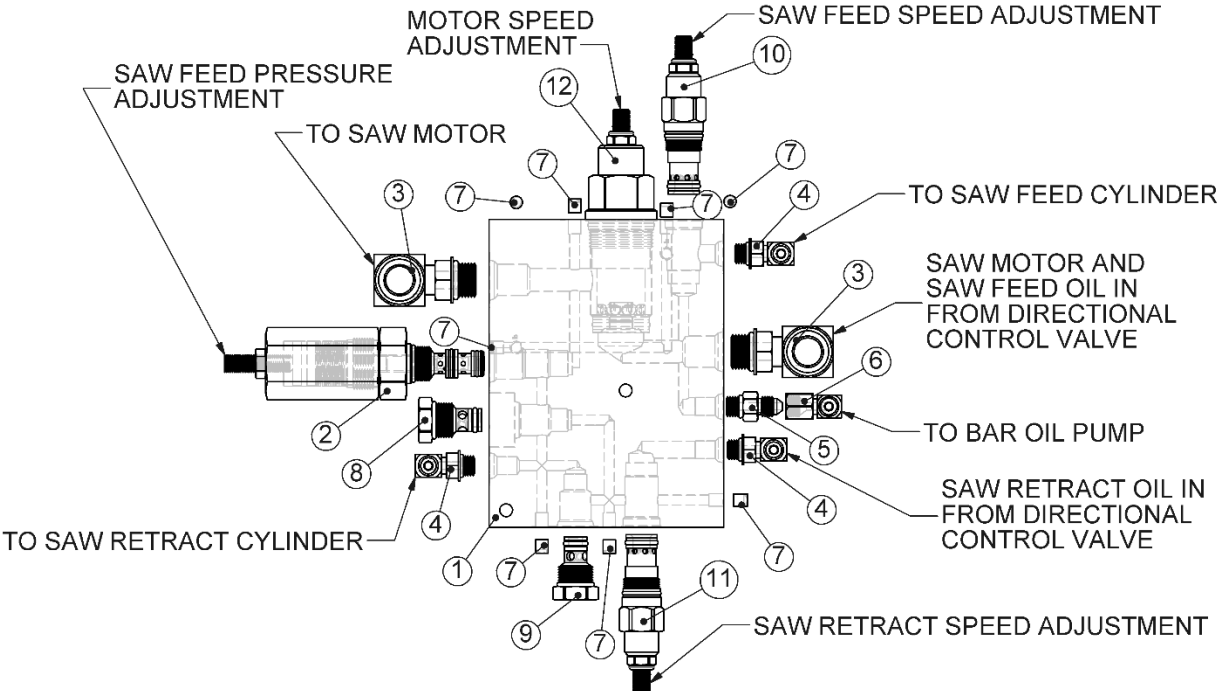
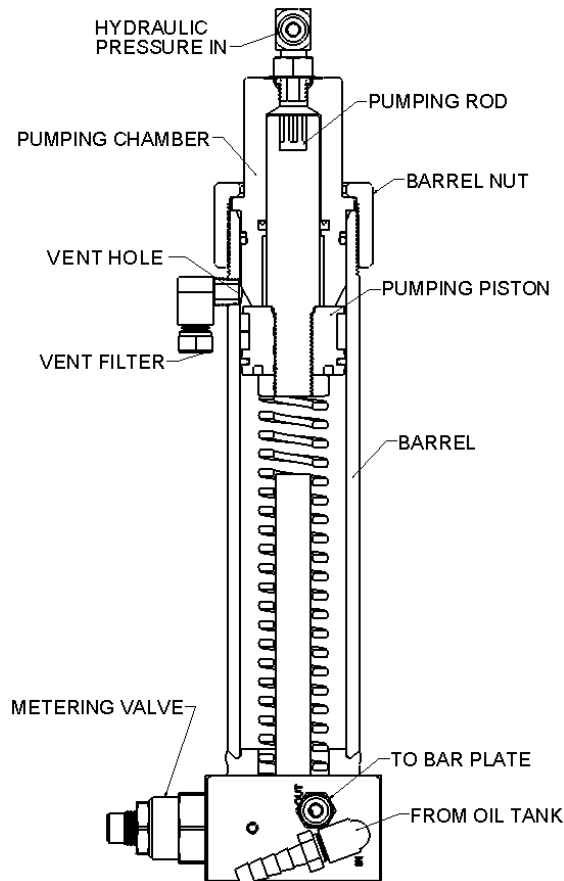

Fig. 8
Fig. 9
Connect and Cut saw systems have a control manifold with cartridge valves to limit flow to the saw motor and feed cylinder, and a feed modulating valve to adjust the feed speed based on the saw motor pressure. We have tested the operation of your system to set the valves before shipping so your system should cut any diameter, species, or hardness of wood without stalling the chain in the cut. The feed modulating valve will make the bar pulsate in the cut on larger or harder wood as it is trying to cut as fast as possible. It may be possible to fine tune the cutting for your application by adjusting the saw feed speed adjustment valve (Fig. 8, item 11). For larger or harder wood loosen the jam nut with a 9/16" wrench and screw the adjustment screw out with a 5/32" hex key wrench (Allen wrench), this will slow the bar movement down, lock the jam nut down when done adjusting. For smaller softer wood you may want to speed up the bar movement by screwing the adjustment screw in. Having the bar move too fast may cause the chain to stick when starting into the cut if the chain hits a knot. It is possible to tune the feed modulating valve (Fig. 8, item 2) by loosening the jam nut with a 9/16" wrench and adjusting the screw with a 3/16" hex key. A smoother cut may be possible by screwing the adjustment screw out, but this may increase the cutting time in larger or harder wood. If the wood is dry and hard screwing the feed modulating adjustment in may decrease cutting time. Screwing the feed modulating adjustment in too far will cause the chain to stall. Be sure to lock the jam nut after adjusting a valve.
The DH0144 bar oil pump (Fig. 9) is a single acting pump that can pump up to 32 cc, or 1.08 oz., of bar oil per cycle, enough for about 30 seconds of cutting. There is a hose connected to the feed and motor control valve manifold (Fig. 8, item 6) that connects to the fitting (Fig. 9, hydraulic pressure in) on the bar oil pump. When a cut is started flow and pressure from the manifold pushes on the pumping rod and piston to force a metered amount of oil to the bar. Very little rotational adjustment is needed for the metering valve in Figure 9. Turning it clockwise reduces the speed oil is pumped and turning it counterclockwise increases the speed the oil comes out. If you run the tank out of oil you may need to prime the pump. To prime the pump remove the barrel nut and pull out the pumping chamber, pumping piston, and pumping rod. Fill the barrel with bar oil up to the vent hole. Reinstall the pumping rod assembly into the pumping chamber with care to not damage the rod seal. Reinstall the pumping chamber and pumping rod assembly into the barrel, with care to not damage the piston or the O-ring, and retighten the barrel nut. To reduce the chance of seal damage make sure the seals are oiled and wiggle in a circular motion as you push the parts together.